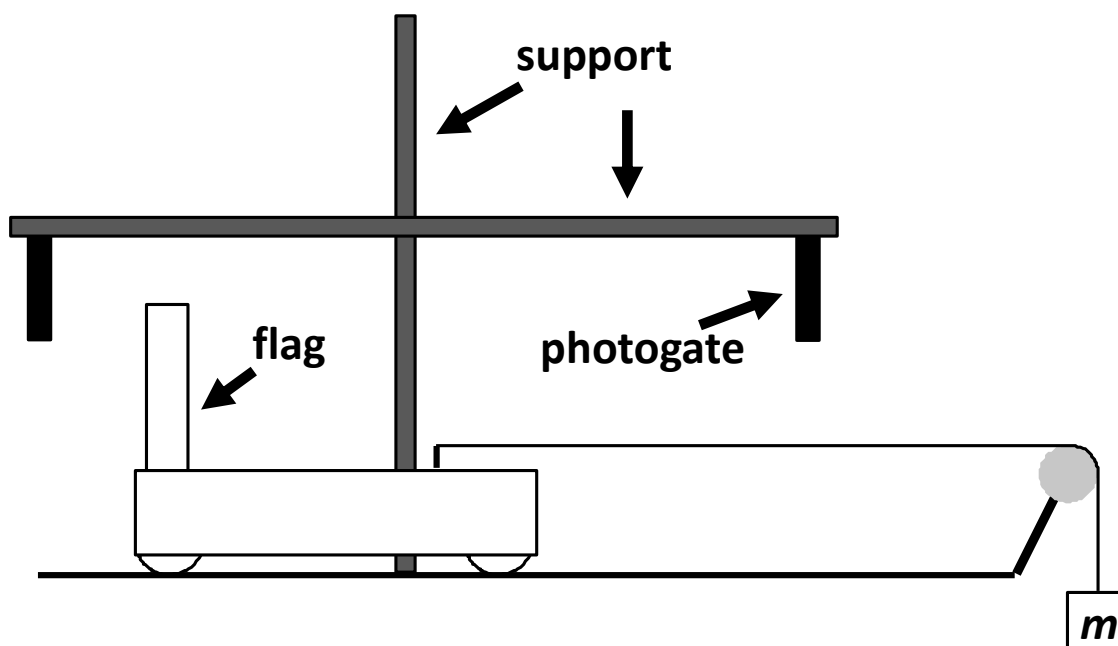
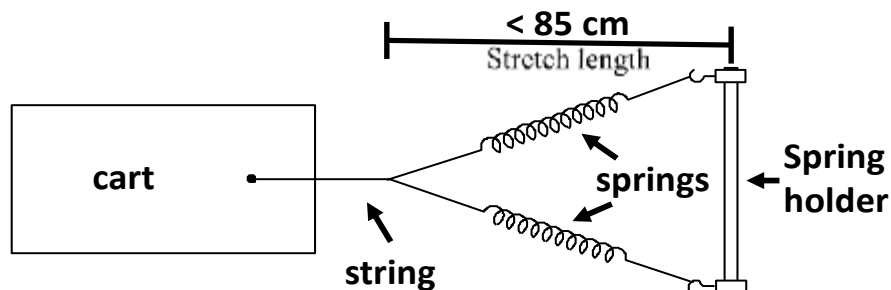

Fig. 1 Arrangement for pulling the cart with a weight (side view).
Fig. 2 Arrangement for pulling the cart with the spring apparatus.
To see how this works, we will deal with a slightly simplified situation in which the motion is restricted to a straight line. Forces will be applied by hanging mass, m , as in Fig. 1 or by springs as in Fig. 2 and, inevitably, by friction. Calling the force pushing the object of interest F and the friction force f , Eq. 1 reduces to
Set up the cart and hanging mass, as suggested by Fig. 1. Attach the metal flag vertically to the magnet at the side of the cart (make sure the long sides of the metal flag sits as perpendicularly as possible to the cart) and adjust the height of the gates so that the metal flag goes through the photogates without hitting. **Plug the power adapter for the “Vernier Lab pro” box into a power outlet if you have not already done so.** Start LoggerPro from the file **Work.cmb1** **from the computer desktop** to get the proper settings for the photogates.
Now set up the cart and spring apparatus as in Fig. 2, fastening the springs to the anchor at one end of the bench and connecting the spring assembly to the cart with a string. Pull the cart back to stretch the springs and release the cart so that it travels straight toward the anchor, being sure that the flag goes through the photogates. The net force on the cart in this set up is non-constant and non-zero. **Do not extend the spring apparatus over 85 cm as indicated in Figure 2** to avoid permanent deformation. You can find the change in kinetic energy with the photogates as you did previously.
When setting up your cart and spring apparatus for this part of the experiment, **the stretch length of the spring apparatus needs to be at least 16 cm when the flag of the cart is at the photogate closest to the end of the table where the spring holder is attached to the table. The stretch length is the distance between the spring holder and the knot that ties the springs to the string as indicated in figure 2.**
You will need to repeat the measurement three times with the same initial stretch length to get an average for ΔK . To find the work done by the springs you will need to measure their force as a function of their stretch length, and then integrate over the distance between the photogates. **The stretch length is the distance between the spring holder and the knot that ties the springs to the string as indicated in figure 2.** You need to first find the stretch lengths of the spring apparatus when the flag is in each photogate. This can be done by positioning the cart in each gate and measuring the distances from the spring holder to the knot in the string when the metal flag is in each photogate. **The integration will be done over this range of stretch length.**
Next, you can determine the spring force as a function of stretch length. There are vertical supports around the room which you can use to suspend weights from your spring assembly. The stretched length is defined the same way as shown in figure 2 (**From the spring holder to the knot that ties the springs to the string**). The weight you attached to the spring apparatus is the applied force to the spring apparatus. **Plot the applied force to the spring apparatus (F) vs stretched length. The applied force F must be the values plotted on the vertical axis.** Following Eq. 2, use LoggerPro **to integrate** the force over the range of stretch length between which the cart passed through the two photogates and thereby find W_F .